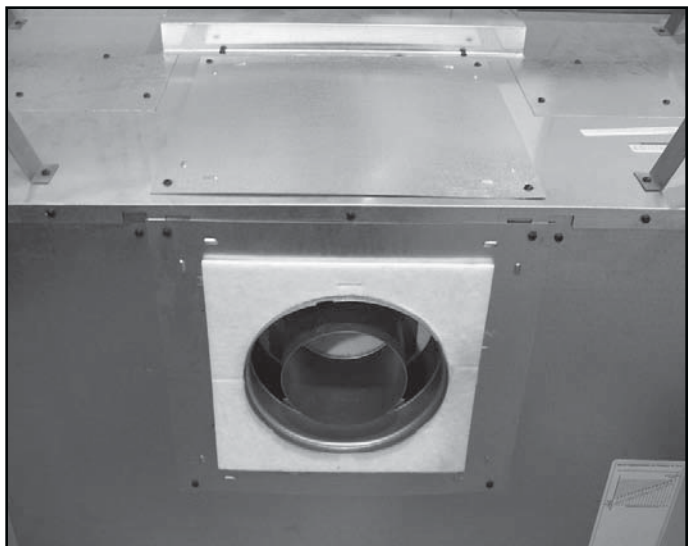

Figure 9.22 Completed Conversion
- The appliance should look like the one shown in Figure 9.22 after it has been converted to a rear vent appliance.